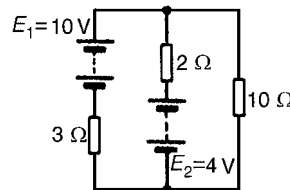
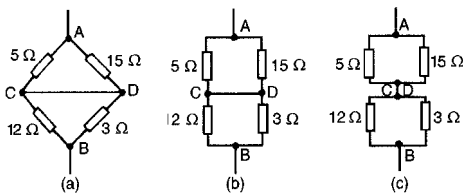

Figure 13.26
Figure 13.34
3 Use the superposition theorem to find the current in each branch of the network shown in Fig. 13.26
- (viii) In Fig. 13.34(a), to find the equivalent resistance across AB the circuit may be redrawn as in Figs. 13.34(b) and (c). From Fig. 13.26(c), the equivalent resistance across